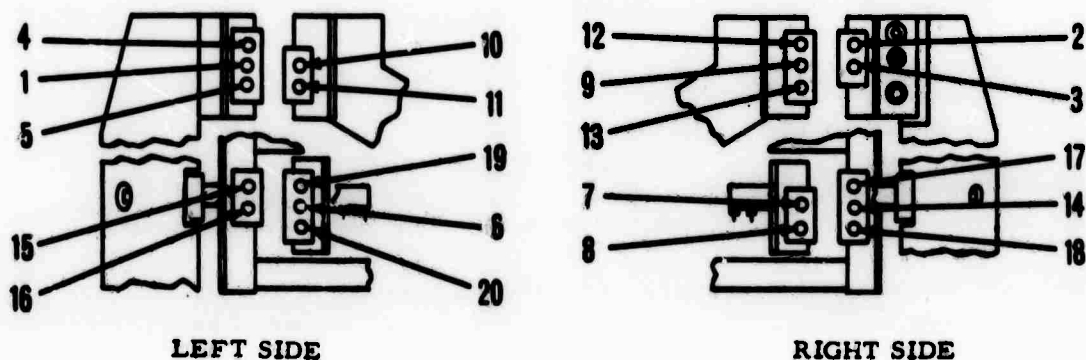

Figure 5-9. Securing Flexure Plates
- e. Using vernier calipers, set the upper pivot assembly so that the flexure blocks are parallel to each other. This may be accomplished by rotating the mast post setscrew (26) which pivots the slide mount (14) on the shoulder screw. When the blocks are parallel, tighten the shoulder screw (30) and capscrews. Lock the jam nut of the mast post set screw (26).
- g. Tighten clamping screws (12) in the order shown in figure 5-9. Clamps should be as flat as possible over the flexures. Do not tighten screws excessively, but aim for the same torque on each screw.